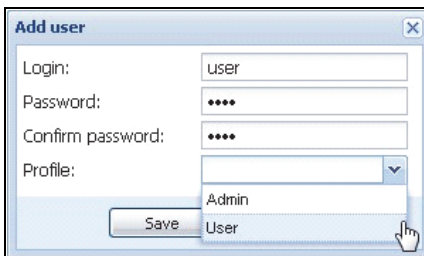

Figure 12. Add User Dialog Box
- 4 Type the user's login and the user's password (see Figure 12).